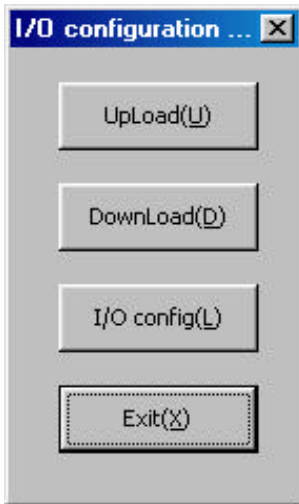

Figure 7.55 "I/O configuration" dialog box
Click *"I/O set (I)"* under "MainMenu" to display the "I/O configuration" dialog box (see Figure 7.55).